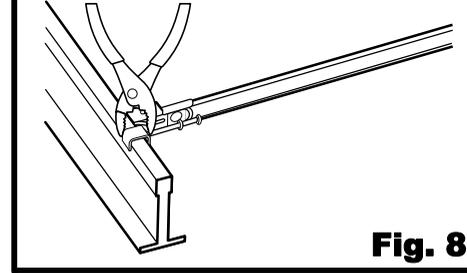

Fig. 8
5. Adjust the hanger bars so that the ends align with T-bars of the ceiling grid. Rest ends of the hanger bars onto the T-bars. Secure the ends of the hanger bars to the T-bars by squeezing the previously curled tabs around the top of the T-bar. **[Fig. 8]**